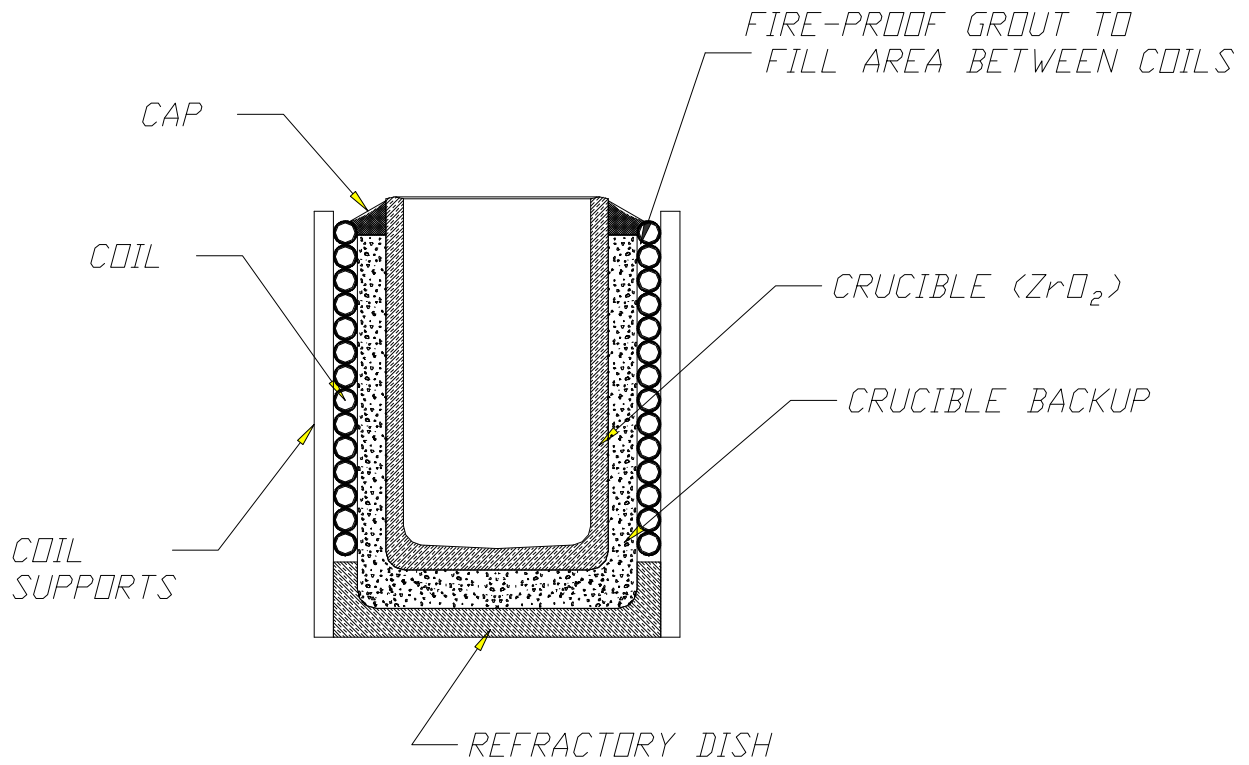

Figure 1. Representation of Traditional Grouted-Coil Installation
- 3.1. Traditional Grouted-Coil Installation (refer to Figure 1)